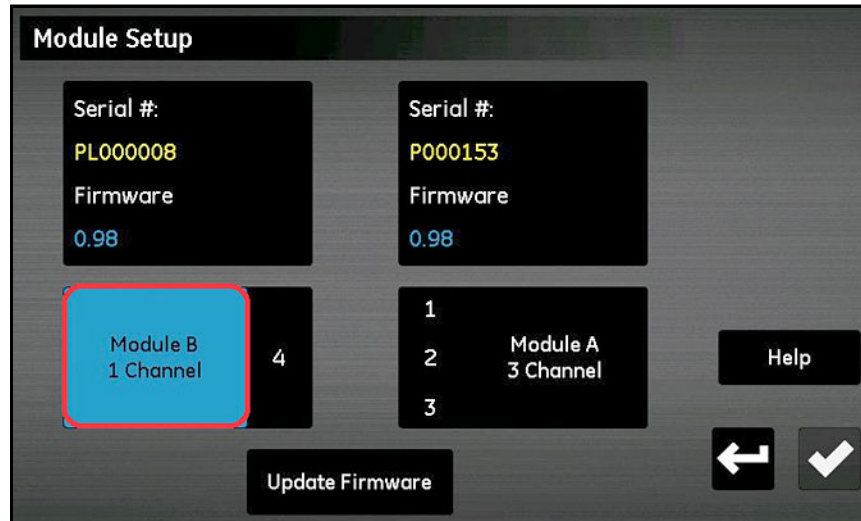

Figure 95: Module Selection
- Tap the module that needs the firmware update, and that module will be highlighted in blue and the **Update Firmware** button will become available (see Figure 95 below). If the **Update Firmware** button is grayed out, check to ensure that the USB flash drive is properly plugged into the USB port.